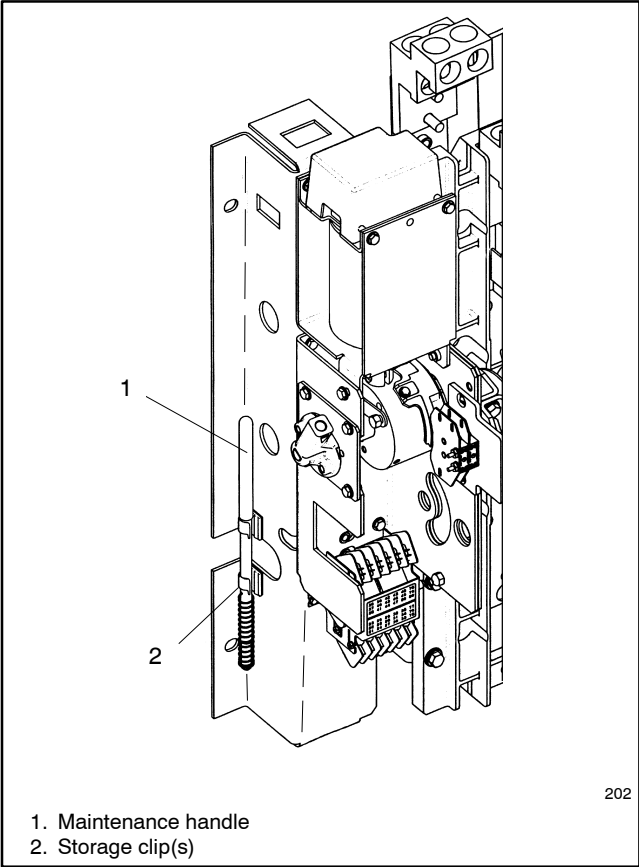

Figure 2-4 Detachable Handle Storage (typical)
2. Remove the maintenance handle from the clip(s) on the left side of the transfer switch frame. See Figure 2-4.